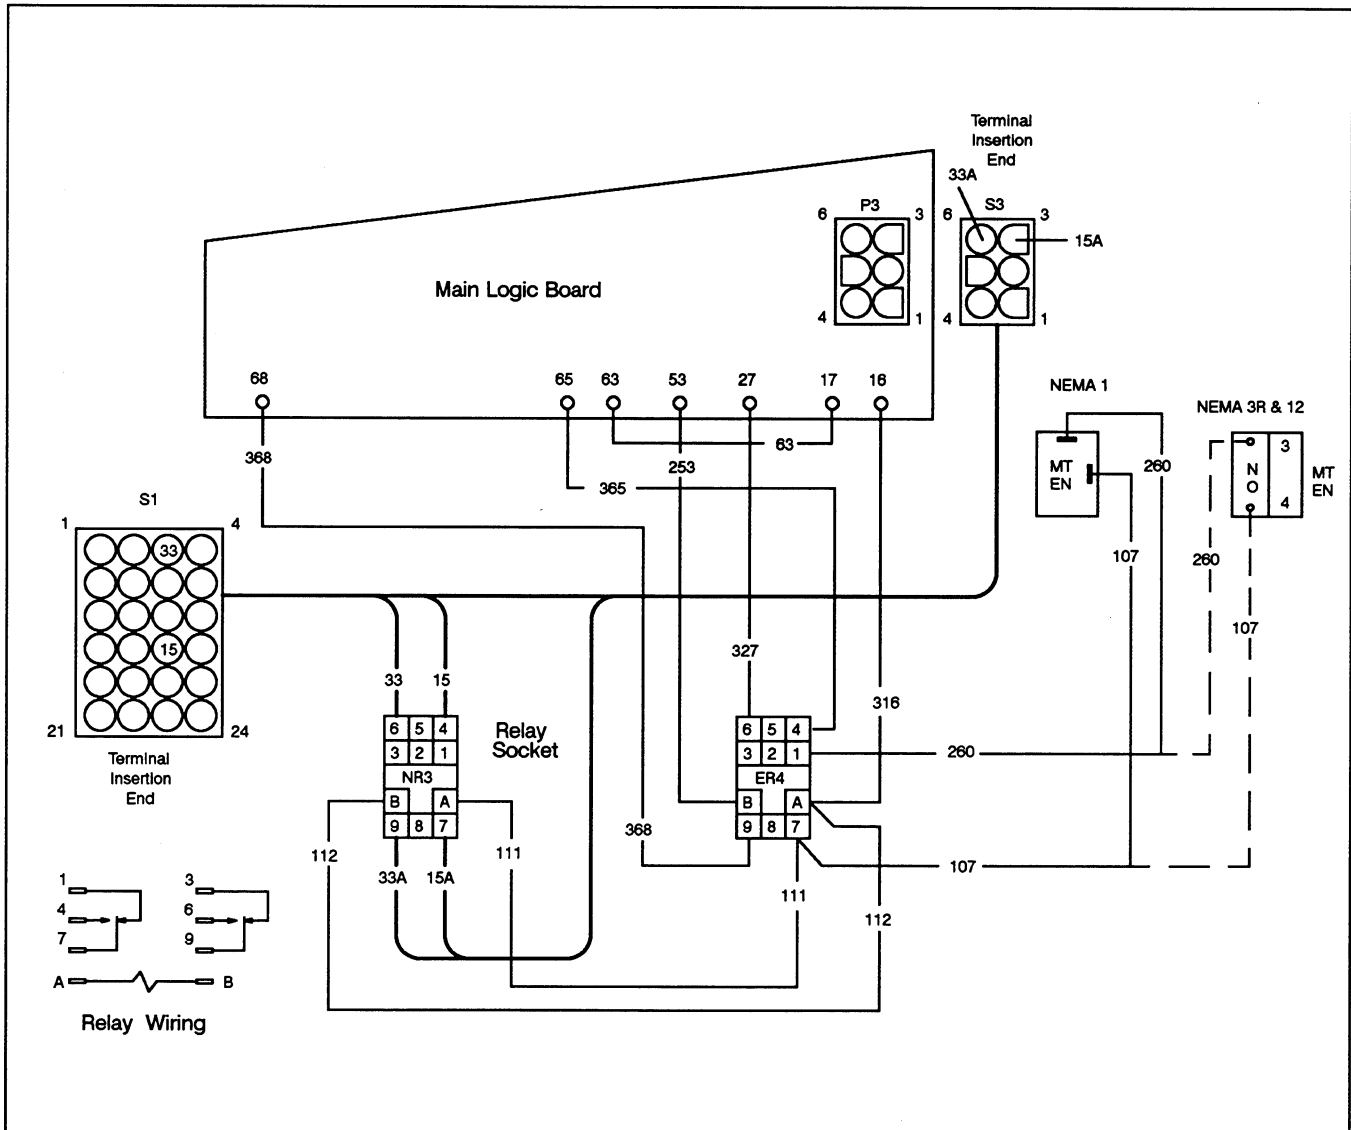

Figure 42. 29-U, V Connections.
□ Acc. 29-U, V – Switch operation from emergency to normal, with switch override circuit. See Figure 42. for connections.